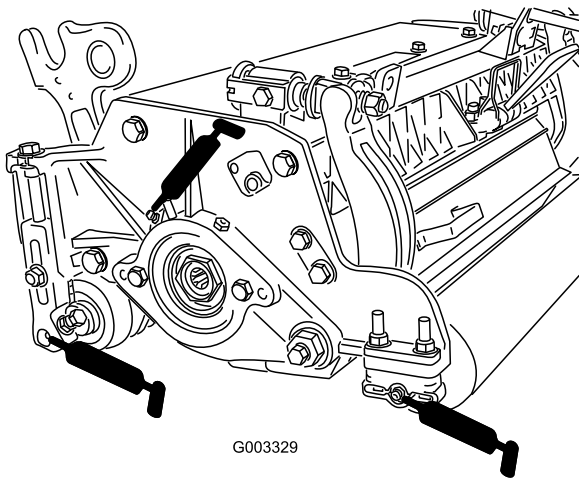

Figure 28
Each cutting unit has (6) grease fittings (Figure 28) that must be lubricated regularly with No. 2 General Purpose Lithium Base Grease.